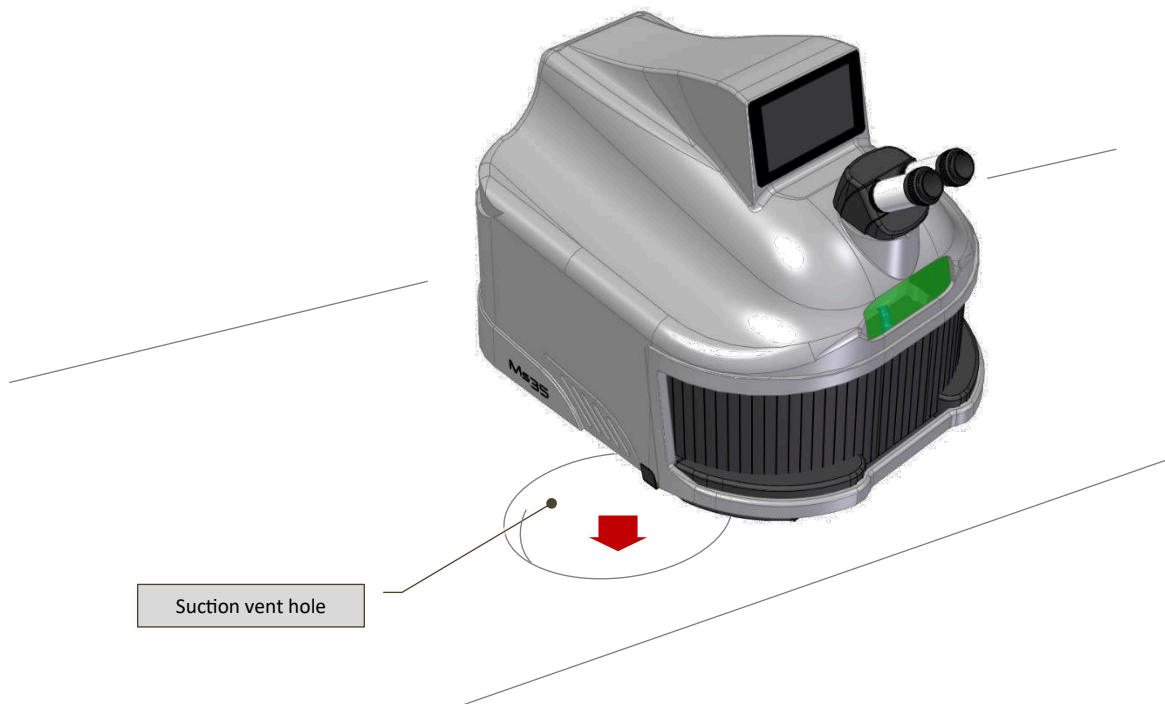
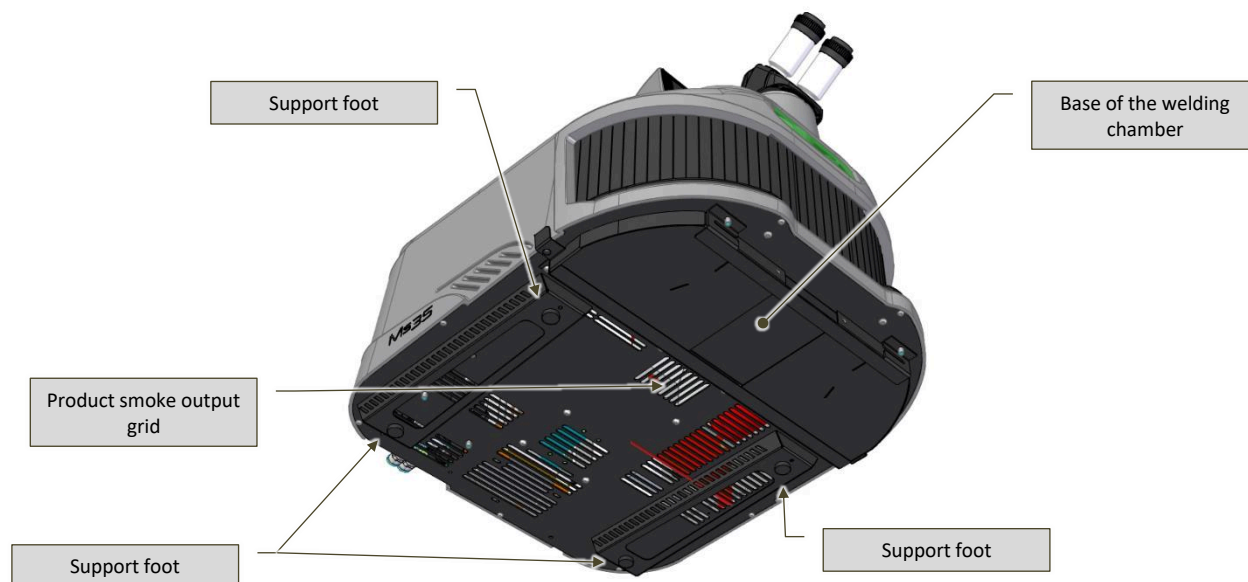

Fig. 6-5 – Ideal installation on worktable
Fig. 6-6 – View of machine support base
*machine*) located directly on the worktable, under the machine (as schematically illustrated in Fig. 6-5), and corresponding with the product smoke output grid (Fig. 6-6).
- It is leaning all four feet (Fig. 6-6);